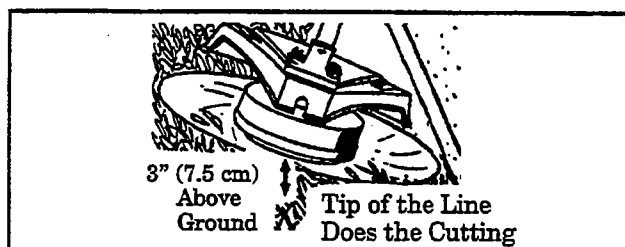

Figure 11
1. **TRIMMING** - Figure 11 . Hold bottom of the trimmer head about 3" (7.5 cm) above ground and at an angle. Allow only the tip of the line to make contact. Do not force trimmer line into work area.